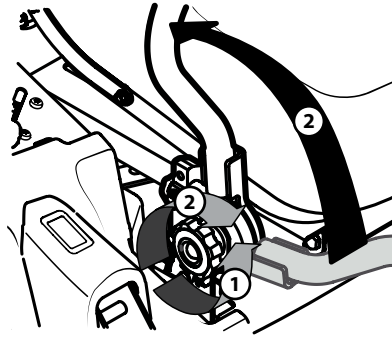

Figure 2-2
1. Loosen the control lever knobs on the side of the drive control levers. See Figure 2-2.
2. Lift and swing that control lever upward into the desired position and secure in place by tightening the control lever knob. See Figure 2-2.